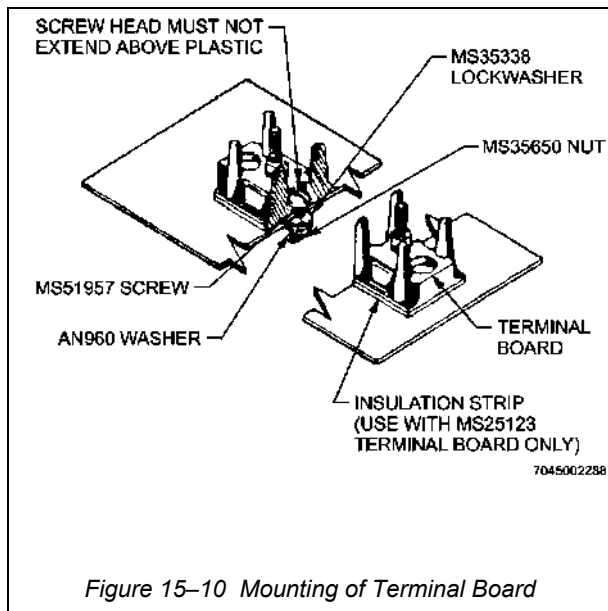

Figure 15-10 Mounting of Terminal Board
45. Install mounting screws so that the screw protrudes through the bottom of the terminal board, as shown in Figure 15-10. The length of the screw should allow for some protrusion beyond the nut. Pass a steel scale or other flat piece of metal over the top of the nut. If it passes over freely, the screw is too short and is to be replaced with the next longer length. Protrusion of screw should not exceed two threads.